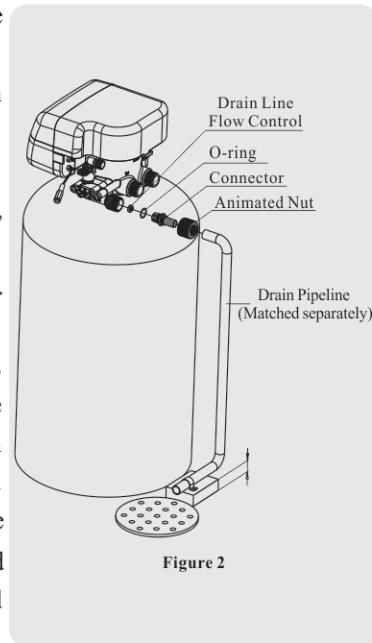

Figure 2
② Install drain pipeline
- As the Figure 2 shows, slide the drain hose connector into drain outlet.
- Locate the drain hose well as the Figure 2 shows.
- Be sure not connect drain with sewer, and leave a certain space between them (Such as showed in the Figure 2.), avoid wastewater be absorbed to the water treatment equipment.
③ Connect brine tube